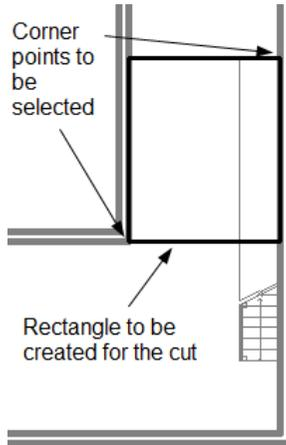

Figure 3-52 Rectangle to be created for cut in the slab
- g. Create a cut in the slab for railing, refer to Figure 3-52.
1. Choose the **Rectangle** tool from the **Rectangle** drop-down available in the **Draw** panel of the **Home** tab; you are prompted to specify the first corner point. Specify the corner points for the rectangle, as shown in Figure 3-52.